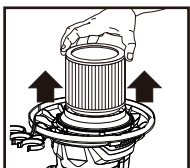

FIGURE 9
14. Slide the cartridge filter off the lid cage. **FIGURE 9.**